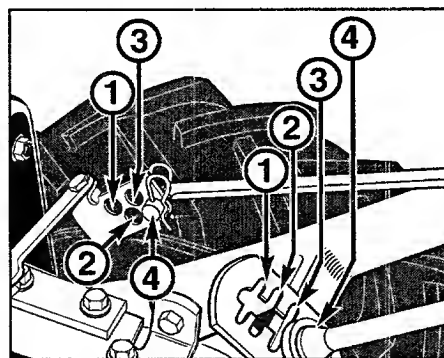

Figure 3-6: Handlebar height slots and clutch swivel plate holes.
- (b) There are four numbered holes in the clutch swivel plate (see Figure 3-6) and four numbered slots in the curved